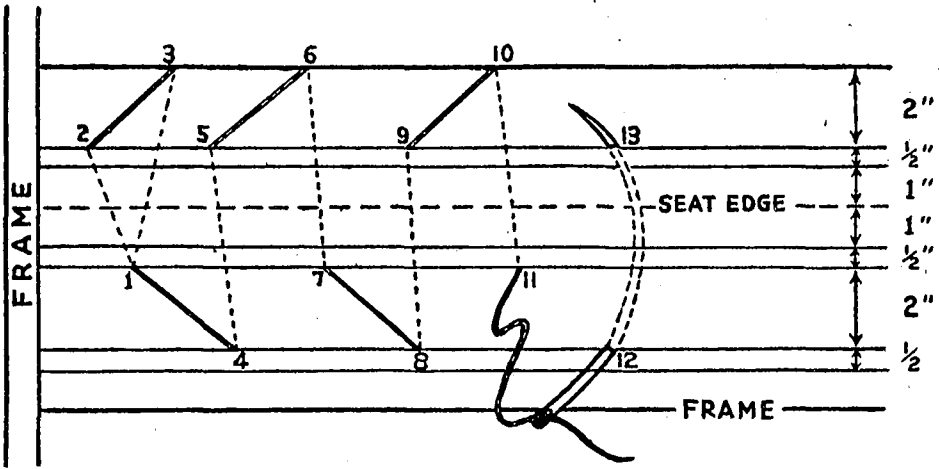

Fig. 14. Lines spaced above and below the front seat edge show where stitches are taken to make padded edges.
The Front Roll on the Seat Section: If the original front seat spring-edge roll is in good condition, plan to use it. If not, make a new one following the procedure in figures 14, 15, and 16.
tect the edge of the seat, finish it with long stitches to hold the top and front firmly in place. To plan the place for the stitches, pinch up the edge with your fingers, then put a chalk or pencil mark at these lines. Usually they come about 1 inch above and below the seat edge. Draw two lines on top to show where to take the long stitches (figure 14). The first of these can be $\frac{1}{2}$ inch behind the line for the edge roll; the second is placed back from the edge 2 inches. Then draw two lines across the front of the padding: the first $\frac{1}{2}$ inch below the edge roll stitch; the second as low as stitches can be taken (usually $\frac{1}{2}$ inch above the seat frame).
Use a 6-inch straight needle with a long, single strand of mattress twine. Knot the twine, and begin stitching at the left-hand side as in figure 14. Insert the needle at 1, bring it out at 2, insert needle again at 3, and bring it out at 1. Tighten the twine. Then proceed: insert needle at 4, out at 5, insert at 6, and out at 7. Tighten the twine and insert needle at 8, repeating stitches across the seat so they are about $1\frac{1}{2}$ inches apart.
1. **For a seat without a separate cushion**, the edge need not be stitched, but a firmer seat edge results if the stitched stuffed roll is made (figure 14). Follow either finish with a final padding of moss or hair and stitch it to the burlap. Cover this with upholsterer's cotton, then with muslin, and finish with outside cover.